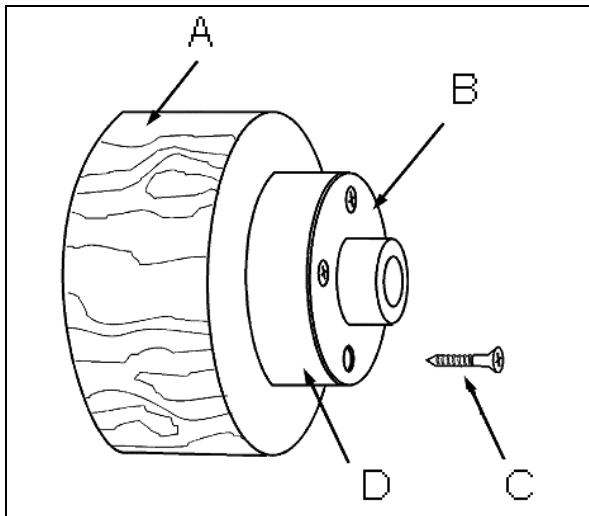

Fig 26
Mount the workpiece (A, Fig 26) directly to the face plate using 4 wood screws (C) from the back. Be careful to use screws short enough not to interfere with the cutting process but long enough to hold the workpiece securely to the face plate.